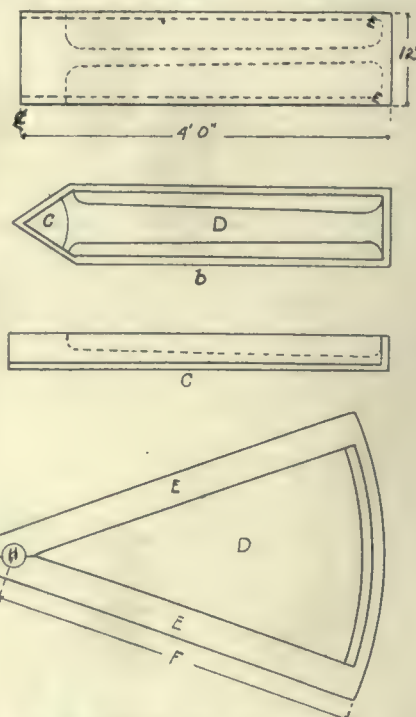

Fig. 2 - Skeleton and Sweep Patterns.
Take a pulley having six arms, as shown in Fig. 2, a core box is first made for the arms. This box must be at least six inches wide, as it requires 6 in. for the one-sixth part of hub, which is included in the core box, as shown at c, Fig. 2 (b) D being half of pulley arm.
It is next necessary to make a section of the rim of the pulley about 2 to 3 ft. long, the flanges E E, Fig. 2 A being screwed on. Two pieces of 1 in. stuff about 4 in. wide are then secured to rim segment, as shown in elevation, Fig. 2 (D). The distance f being the radius of the pulley required. In molding this pulley the molder first sweeps up a flat bed, a hub 12 in. diam. and $2\frac{1}{2}$ in. deep is then placed in the centre and the sand built up around it, out to within about 6 in. of the outside diam. of wheel and swept level, then the hub is drawn out and the arm cores are set on the green sand, the two half-cores to make a complete arm having been pasted together. A spindle or shaft is next driven into the centre of the mold, to be used as a guide to use sweep (D) Fig. 2, the sweep being connected to spindle by means of the hole H in strips E E. Fig. 2 (D).